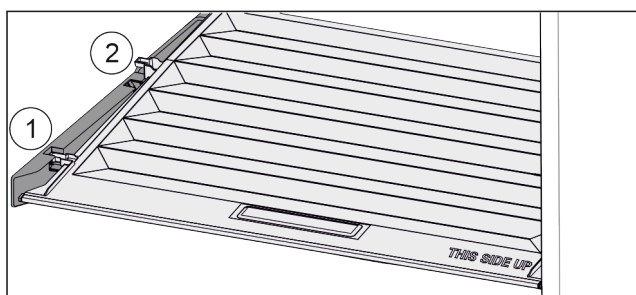

Fig. 30
- ▶ Pull the lid up at the front in the retaining parts to the opening Fig. 30 (1).
- ▶ Lift from the back and pull it up and out Fig. 30 (2).